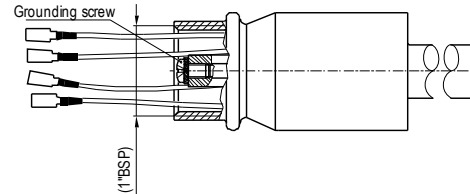

Figure 11.
- Use the grounding screw terminal (see Figure 11.) for grounding the extension pipe. Important! Life protection ground, 25 A class ground connection must be guaranteed to suit Class I. electrical protection.